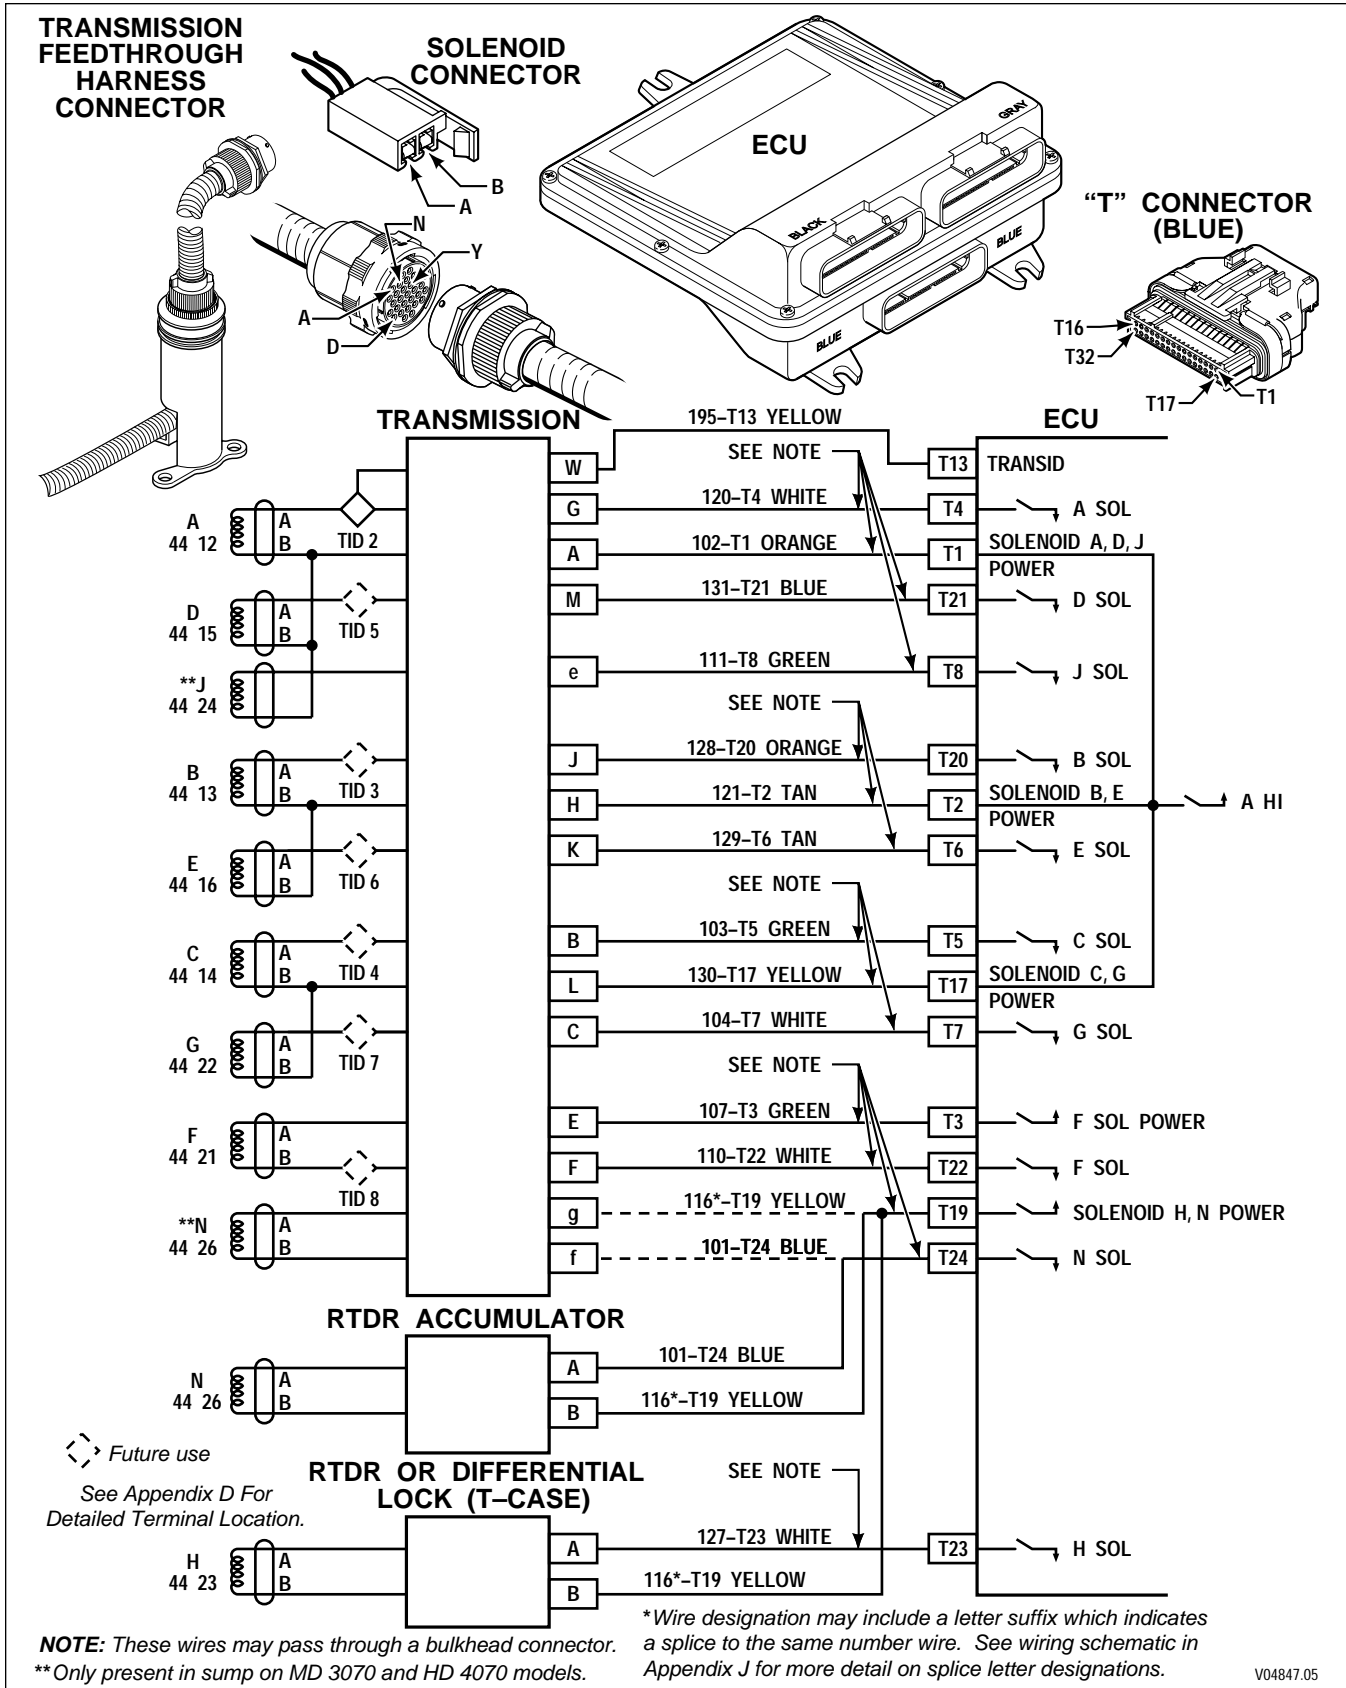

Figure 6-16. Code 44 Schematic Drawing
**CODE 44 XX — SHORT-TO-GROUND IN SOLENOID CIRCUIT** *(Figure 6-16)*
**CODE 44 XX — SHORT-TO-GROUND IN SOLENOID CIRCUIT** (Figure 6-16)